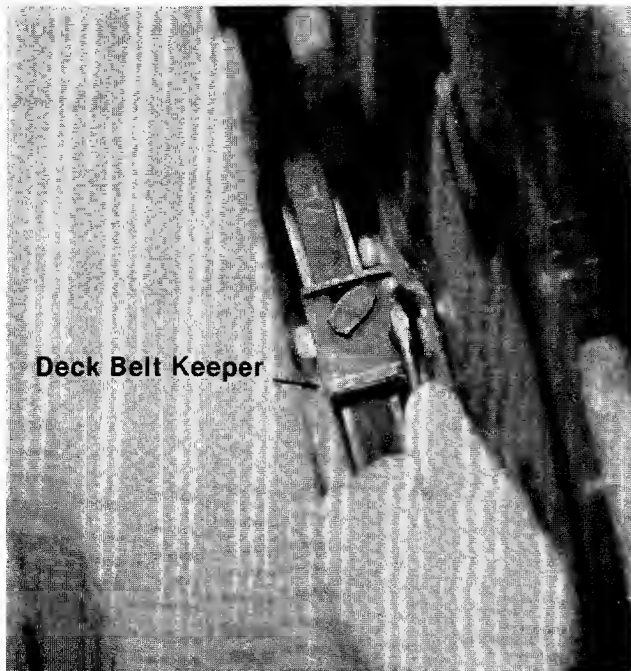

FIGURE 18. REMOVAL OF DECK BELT KEEPERS
3. Remove two belt keepers at the deck pulley and shoulder bolt. See figures 18 and 19.